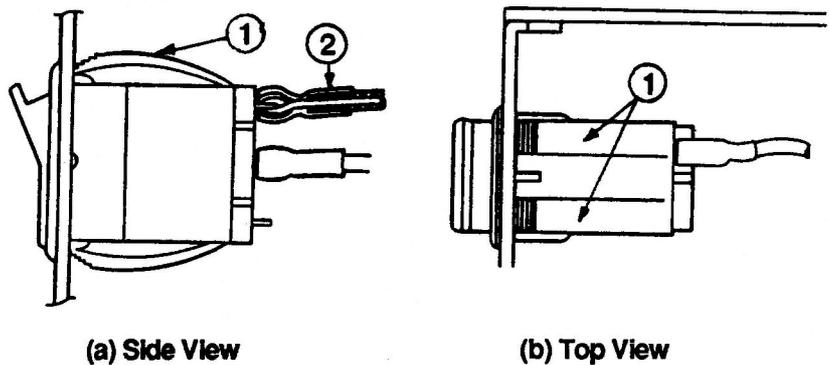

FIGURE 4
- a) **If you have removed the cover**, clip off the two locking tabs (Figure 4, #1) on top of the switch (use diagonal cutters); then push the switch out with your fingers. (If that doesn't work, push the lower locking tabs out of the way with a screwdriver and try pushing again.)